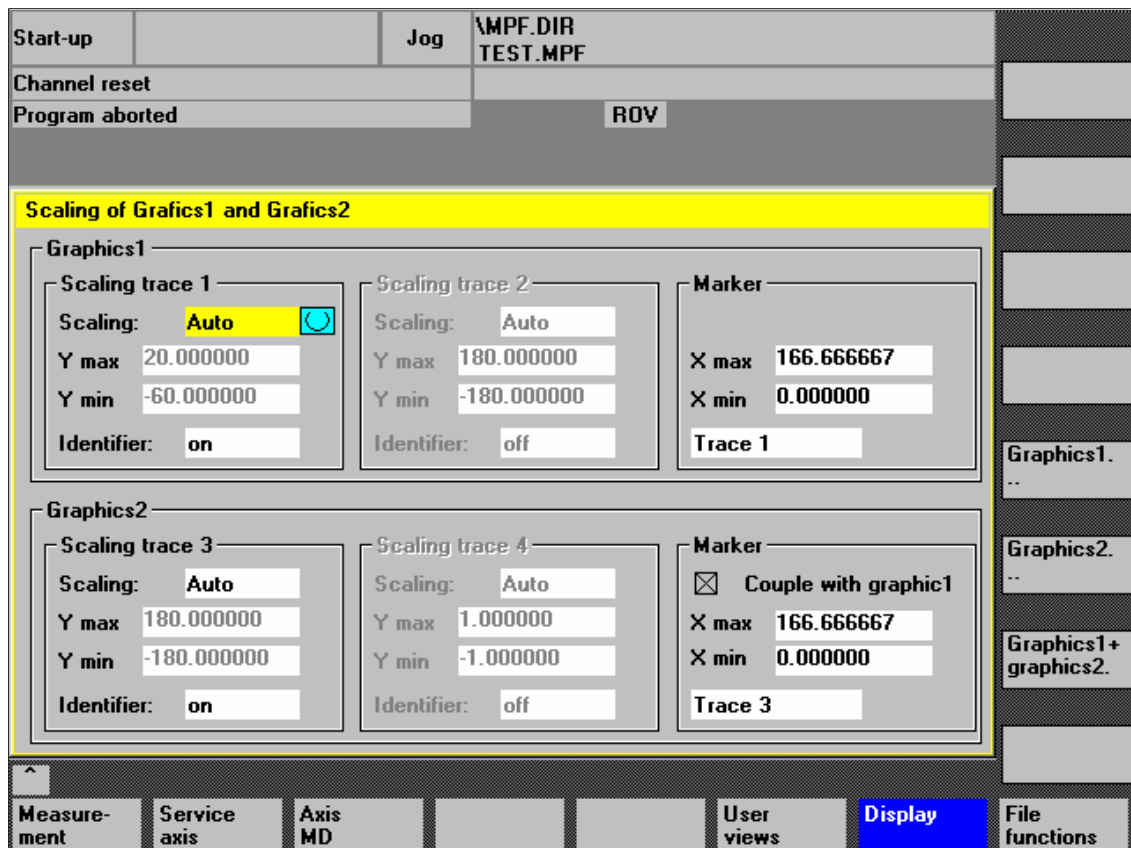

Fig. 15-6 Menu: Scaling of graphics
- Switching over the display from double to single graphics and vice versa (this function also exists in the scaling menu Fig. 15-6, Page 15-449)